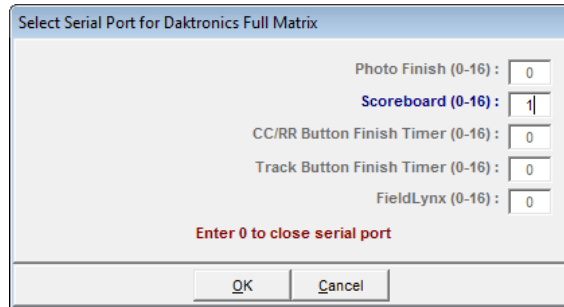

Figure 17: Serial Port for Daktronics Full Matrix
- For the *Scoreboard (1-16)* option (*Figure 17*), select the COM port number on the Hy-Tek computer that will output Standard RTD, and then click **OK**.